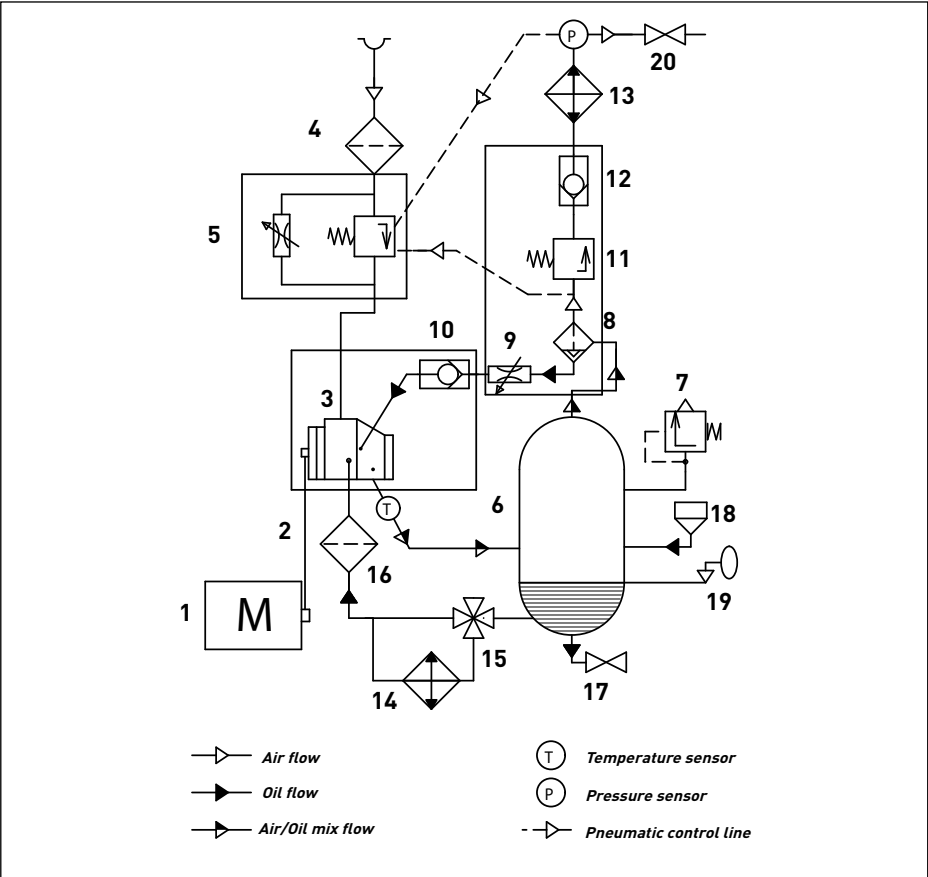

Fig. 2.3 Function diagram A30-A55
2.4 Functional description (see Fig. 2.3)